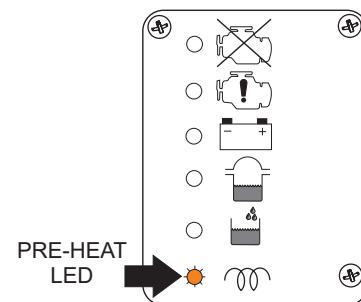

Figure 44. Pre-Heat LED Engine Warning Unit
4. Depending on the temperature of the coolant (cold weather conditions), the pre-heat LED (Figure 44) will light **(ON)** and remain on until the pre-heating cycle has completed. After completion of the pre-heating cycle, the LED will go **OFF** and the engine will start.